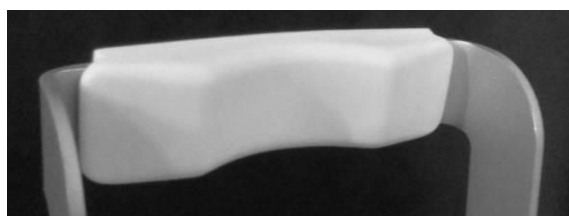

Figure 3 - Forehead rest patient side
- attach the silicon forehead rest (included in the tool box) on the forehead rest frame as shown in the pictures below (Figure 3 and Figure 4);